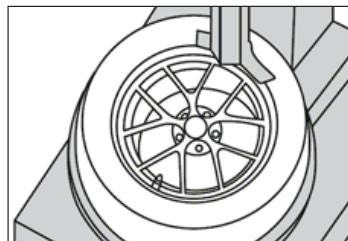

Figure 5
5. Mount the tire: grip the rim edge and the valve is opposite to the mounting arm, avoid hitting the sensor during arm operation (Figure 5).